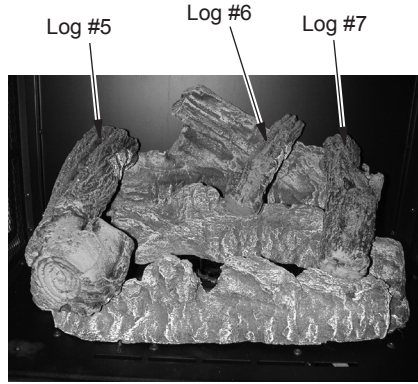

Figure 16 - Logs #5, #6 and #7
7. Place log #6 into cutouts in log #1 and log #2 as shown in Figure 16.